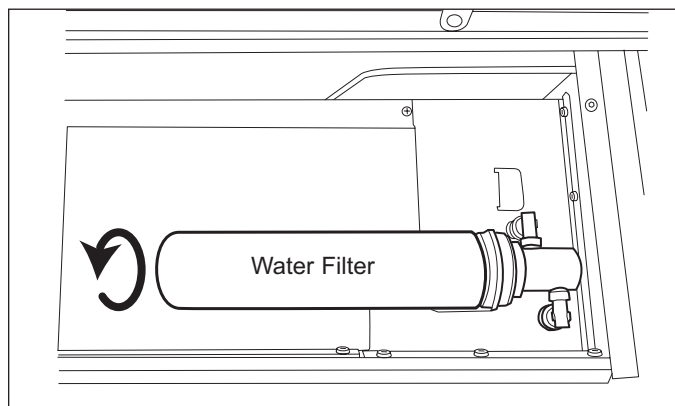

Figure 7-10. Water Filter Removal
2. Rotate filter counterclockwise to remove it (See Figure 7-10); clockwise to install it.